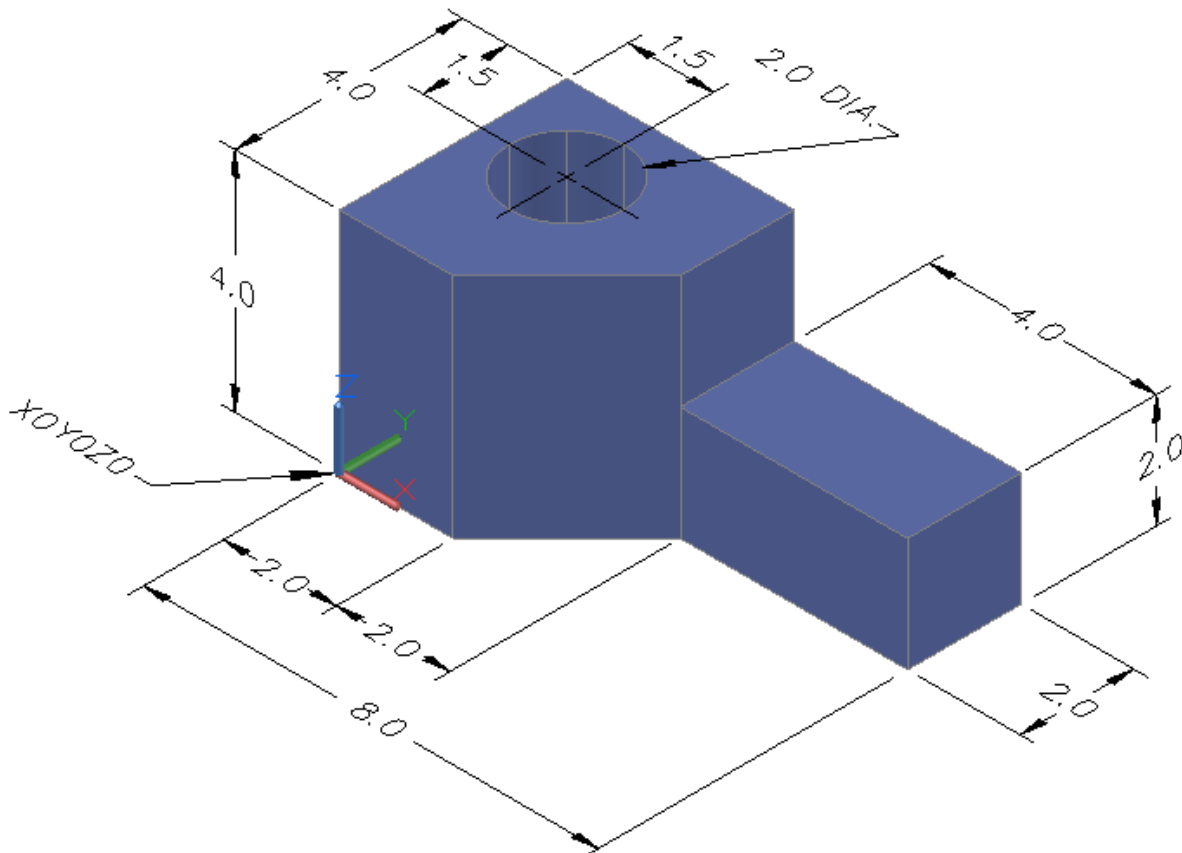

Figure Step 2
Step 2 Save the drawing with the name: AutoCAD 3D Workalong 03-1. (Figure Step 2)